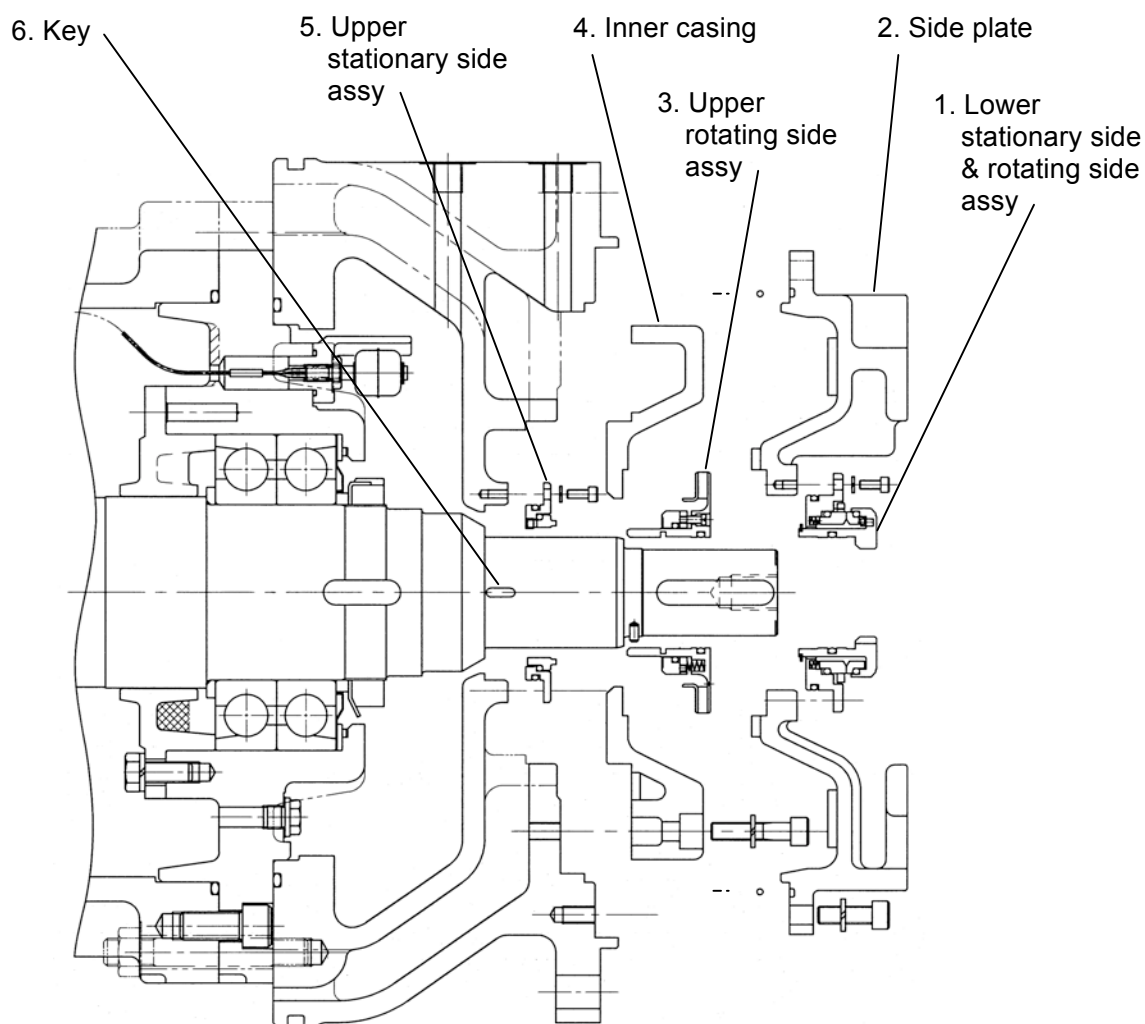

Fig. 24c
ICS opt.*(3) Mechanical seal replacement (Refer to Fig. 24c)**